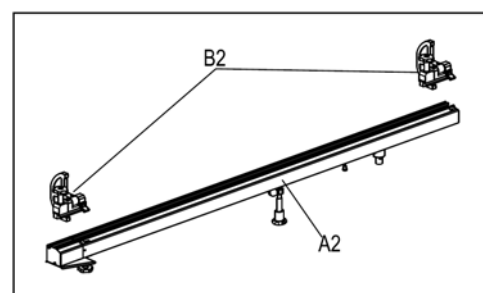

Fig.10
----Cross-cutting fence Box Content: (Fig.10)